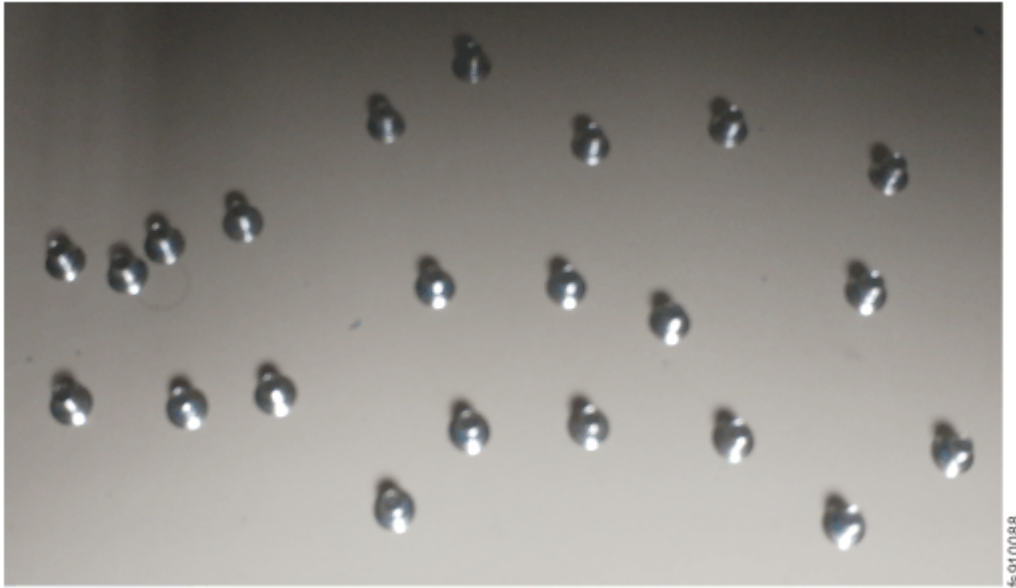

Figure 97. Midplane assembly screws
19. Unpack the replacement midplane assembly. Locate the pack of replacement screws that comes in the package. The package includes 24 screws, but only 22 screws (shown in Figure 97 on page 151) are used to secure the enclosure chassis.